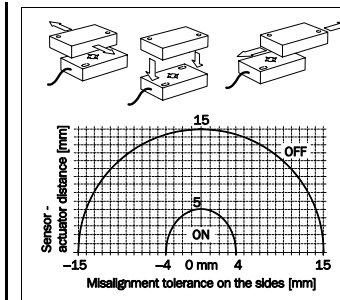

Fig. 4: Alignment of read head and actuator
- Note the possible operating positions in Fig. 4.